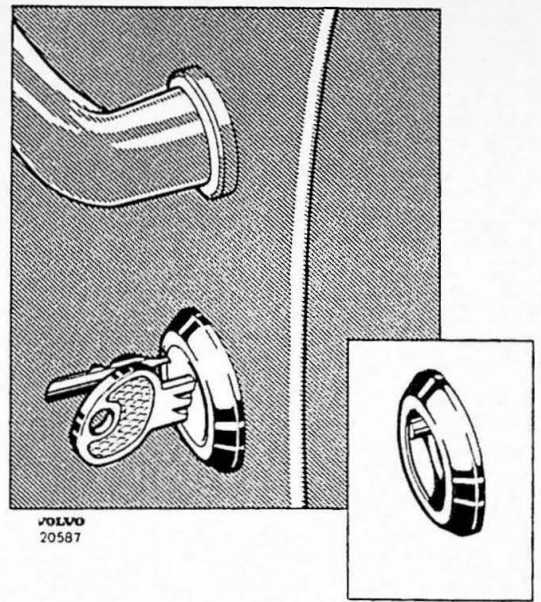

Fig. 22.
7. If the lock unit itself is to be removed from the lock cylinder, then the key is inserted and turned into its left-hand position. Then push in a small, pointed object such as a pen nib in the small recess in the lock plate. In this way a small catch is released and the lock unit may be drawn out after rotating slightly in an anti-clockwise direction as shown in Fig. 22.